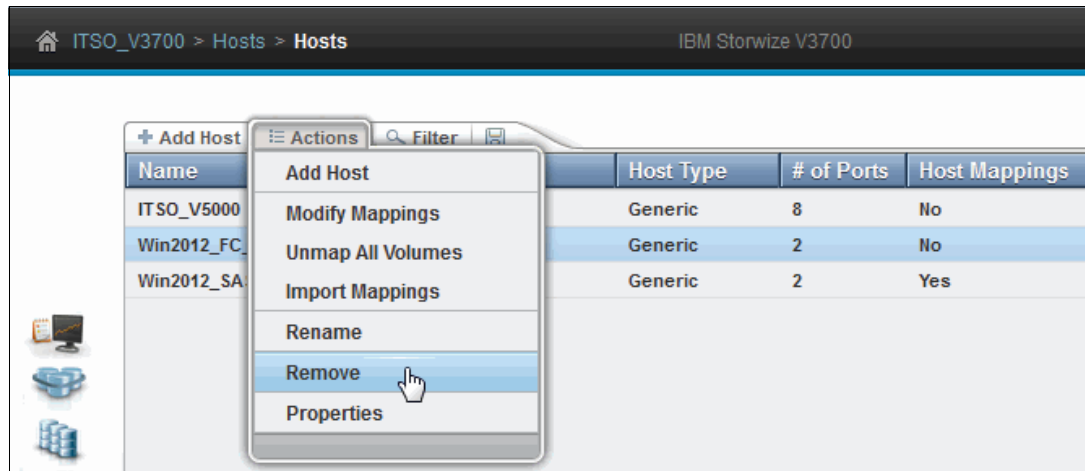

Figure 8-19 Removing a host
1. Select the host and from the Actions menu, click **Remove**, as shown in Figure 8-19.